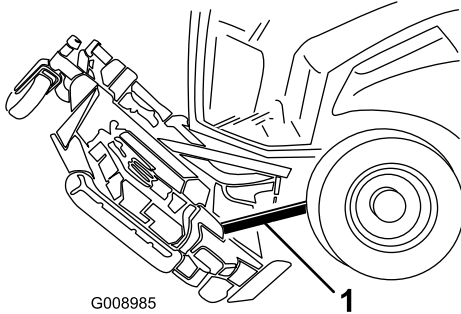

**Figure 131**
4. Remove the hairpin cotter and clevis pin securing the height-of-cut chains to the rear of the mower deck (Figure 131).